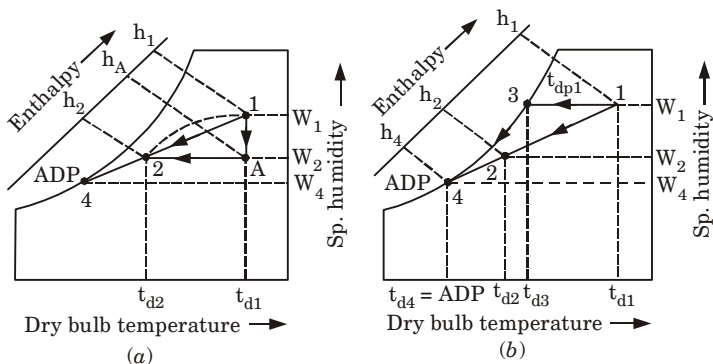

Fig. 4.18.6. Cooling and dehumidification.
1. When the air is passed through an insulated chamber having sprays of water maintained at a temperature (t_1) higher than the dew point temperature of entering air (t_{dp1}), but lower than its dry bulb temperature of entering air or equal to the wet bulb temperature of the entering air (t_{w1}), then air is said to be cooled and humidified as shown in Fig. 4.18.6(a) and (b).